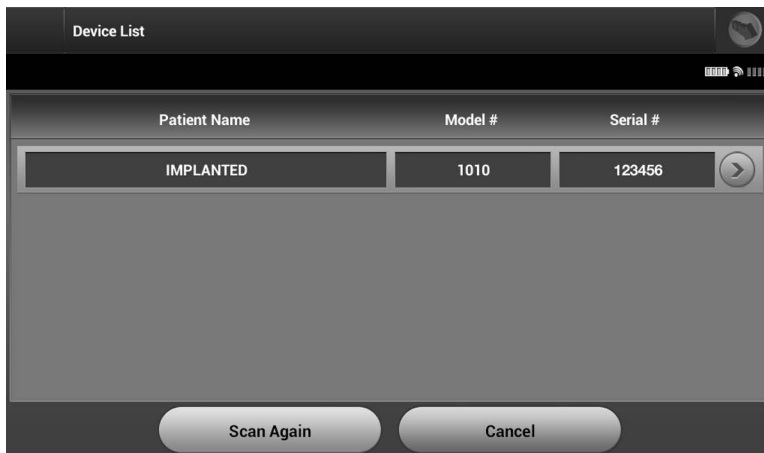

Figure 15: *Device List screen (scrollable list)*
2. When the scanning process is complete, a list of all SQ-RX devices detected (up to 16) will be displayed on the Device List (Figure 15). The SQ-RX devices that are in Shelf mode will be displayed as “Not Implanted.” Any SQ-RX devices that were previously taken out of Shelf mode are displayed either as “Implanted” or with the stored patient name.